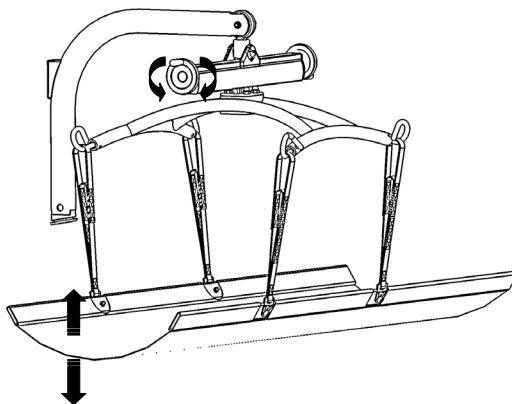

Fig. 18
11. **NOTE:** Adjustment can be made by operating either the left or right hand handles on the Stretcher Support Cradle by rotating either clockwise or anti-clockwise to level the patient for additional comfort and stability. (see Fig.18).